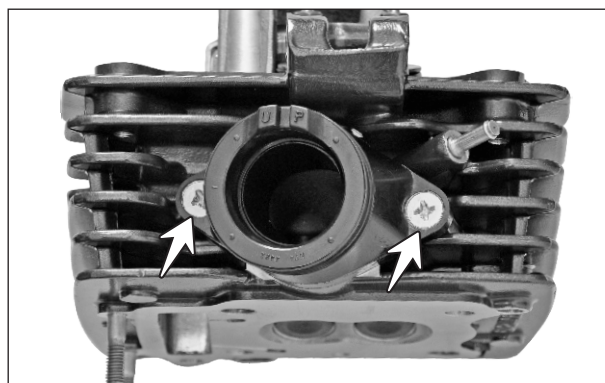

Fig. 3.45
- Remove the REC CSK head screw (M6x16 - 2 nos.) from the pipe intake complete mounting and take out the pipe intake along with a 'O' ring. (Fig. 3.45)